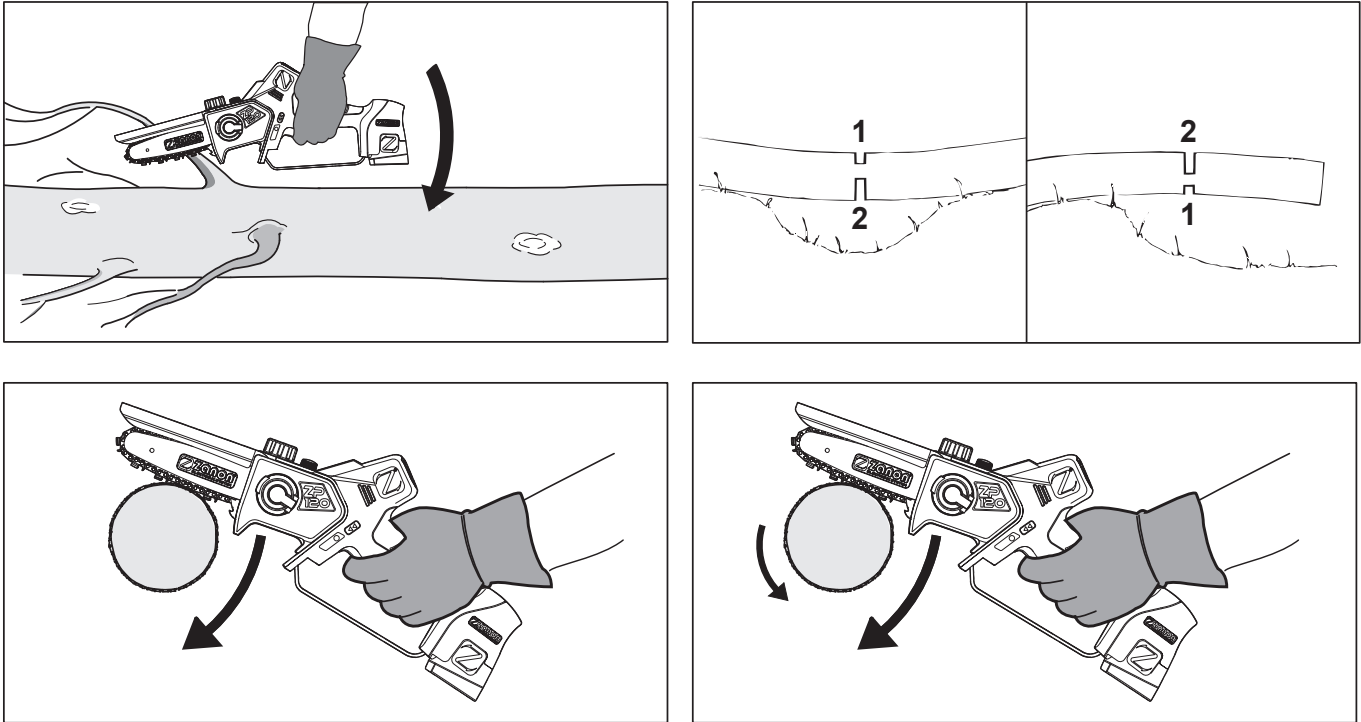

Fig. 6
- If the branch is taut, it is necessary to perform a loosening cut (1) on the compression side and a tear cut (2) on the tension side (fig. 6).